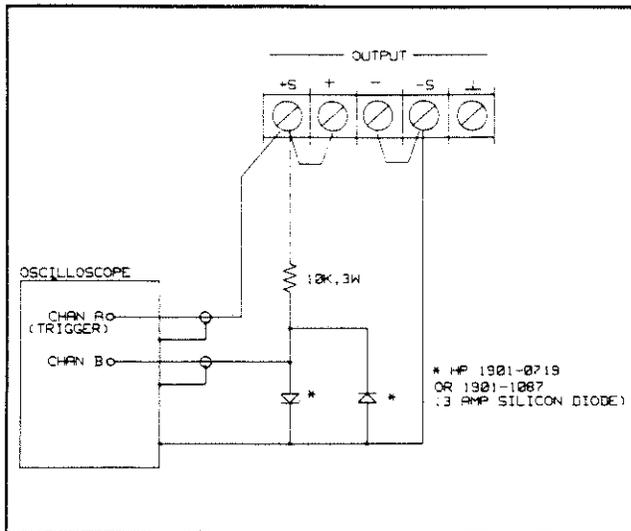
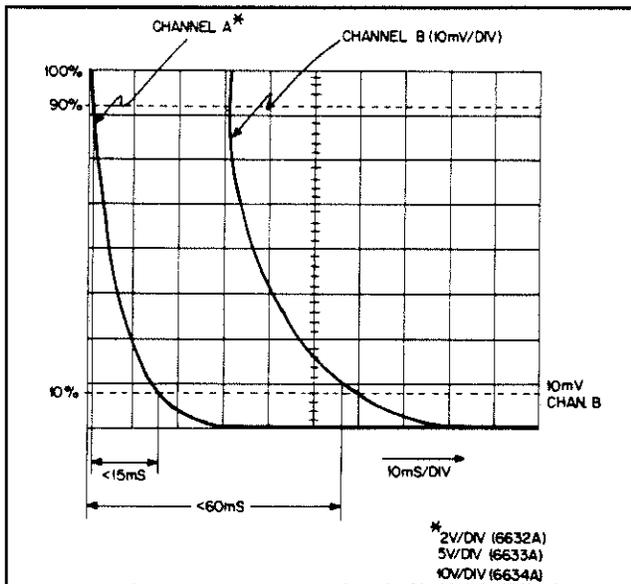

Figure 3-3. Down Programming Speed Test Setup
Figure 3-4. CV Down Programming Speed Test Waveforms
- Turn off the supply and connect the output as shown in Figure 3-3.
- i. Now observe Channel B on the oscilloscope while maintaining the trigger on Channel A as in step f. Note that the diode clamp, used in the test setup of Figure 3-3, prevents gross overload of Channel B (which is set at 10 mV/div) allowing examination of the "tail" of the waveform. The output voltage should be within 1 LSB (5 mV for HP 6632A, 12.5 mV for HP 6633A, 25 mV for HP 6634A) of its final settling value on the bottom horizontal line in less than the time specified in Table 3-2, CV PROGRAMMING SPEED. Refer to the Channel B waveform in Figure 3-4. The 1 LSB value for the particular model being tested is listed Table 3-2.